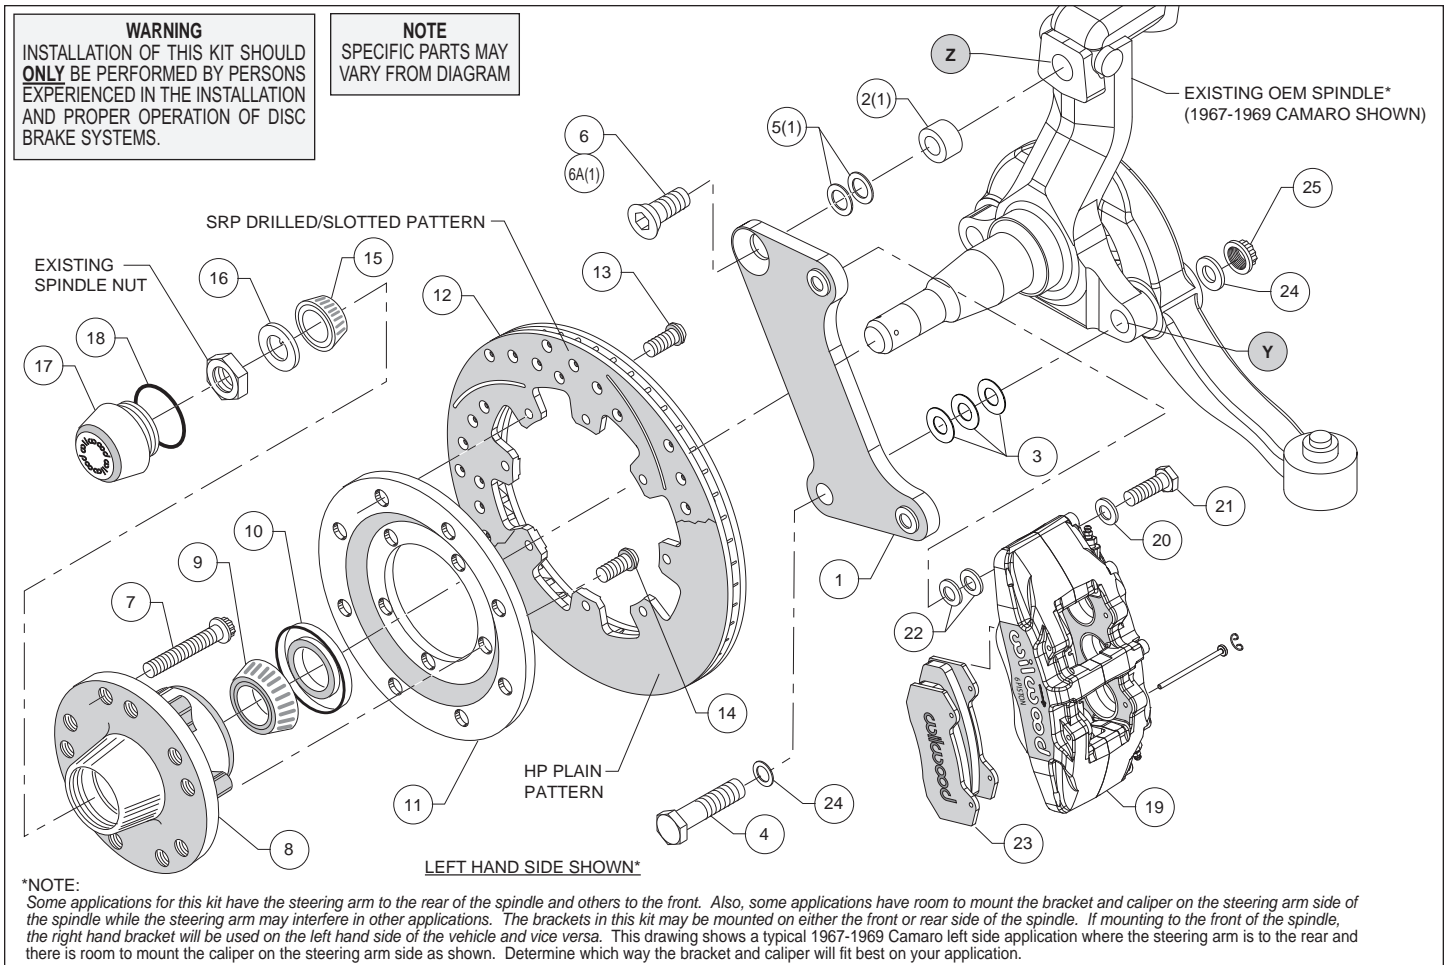
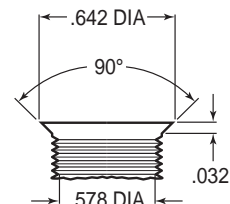
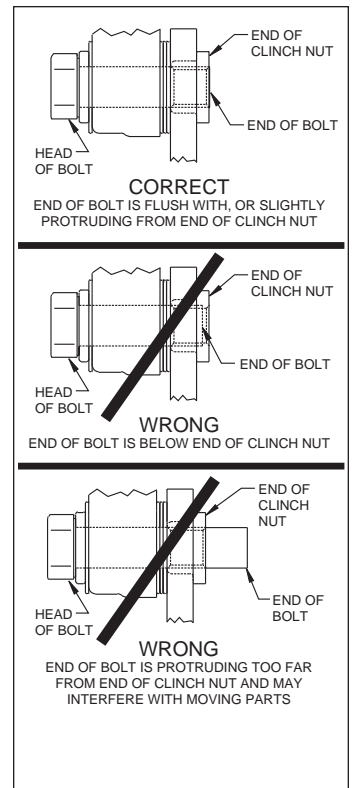

Figure 1. Typical Installation Configuration
Figure 3. Drill and Tap Detail
Figure 4. Clinch Nut Engagement Diagram
Assembly Instructions (numbers in parenthesis refer to the parts list and Figure 1 on the preceding page): **CAUTION:** All mounting bolts must fully engage clinch nuts. Be sure to check that all bolts are either flush or protruding through flanged side of clinch nut after shimming, Figure 4.
•**NOTE:** Some applications for this kit have the steering arm to the rear of the spindle and others to the front. Also, some applications have room to mount the bracket and caliper on the steering arm side of the spindle while the steering arm may interfere in other applications. The brackets in this kit may be mounted on either the front or rear side of the spindle. If mounting to the front of the spindle, the right hand bracket will be used on the left hand side of the vehicle and vice versa. Figure 1 shows a typical 1967-1969 Camaro left side application where the steering arm is to the rear and there is room to mount the caliper on the steering arm side as shown. Determine which way the bracket and caliper will fit best on your application.
•**NOTE:** Some spindles in this year range may require the following modifications (reference Figure 1 and Figure 3): Top anchor pin hole (Z) must be drilled and tapped to the dimensions as outlined in Figure 3. The lower bolt hole (Y) in the spindle used to mount the new caliper bracket, and the mating steering arm hole, must be enlarged to .50" by drilling. It is recommended these modifications be performed by a qualified machinist.
•Install wheel studs (7) into the hub (8), Photo 1. Torque to 77 ft-lb. **NOTE:** There are two five lug patterns in the hub (5 x 4.50 and 5 x 4.75). Ensure the correct hub stud pattern is being used to fit the wheel application.
- Pack the large inner bearing cone (9) with high temperature disc brake bearing grease (available from your local auto parts store) and install into the backside of the hub (8), Photo 2.
- Install the grease seal (10) by pressing into the backside of the hub (8), flush with the end of the hub, Photo 2.
- Orient the rotor (12) and the rotor adapter (11) as shown in Figure 1 and Photo 3. Attach the rotor to the adapter using bolts (13). Using an alternating sequence, apply red *Loctite*® 271 to the threads, and torque to 25 ft-lb.
- Mount the adapter/rotor assembly (11 and 12) to the hub (8) using bolts (14), as shown in Figure 1 and Photo 4. Using an alternating sequence, apply red *Loctite*® 271 to the threads, and torque to 45 ft-lb.
- Disc Brake Spindle Application Only:** Follow the instructions below, but instead use bolt (6A), spacer (2), and two .050" thick washers (5) in the upper bolt hole location, Figure 1.
- Orient the flat bracket (1) as shown in Figure 1 and Photo 5, and install using bottom bolt (4), washers (24), and nut (25), Figure 1. Initially place three .032" thick shims (3) between the bracket and spindle. Install the upper bolt (6 or 6A), Photo 6. Ensure that the flanged heads of the clinch nuts in the bracket are facing outboard. Temporarily tighten bolts. **NOTE:** *The bracket must fit squarely against the mounting surfaces on the spindle.* Inspect for interference from casting irregularities, machining ridges, burrs, etc. Temporarily install the hub/rotor assembly. Check that the bracket is aligned parallel to the rotor, Photo 7. If not, adjust by adding or subtracting shims (3) on the lower bolt between the bracket and spindle, Figure 1. Once the bracket alignment is correct, remove the upper bolt (6 or 6A), apply red *Loctite*® 271 to the bolt threads, and torque to 120 ft-lb. Torque the lower lock nut to 65 ft-lb.
- Pack the small outer bearing cone (15) with high temperature disc brake bearing grease and install into hub (8). Slide the hub/rotor assembly onto the spindle. Secure using spindle washer (16) and OEM spindle nut, Photo 8. Adjust bearings per OEM specifications. Install saved OEM nut lock (if any) and a new cotter pin (not included).
- Screw dust cap (17) into hub (8). Friction created by the o-ring (18) on the dust cap keeps it from unscrewing. **NOTE:** *The O.D. of the existing OEM spindle washer may be larger than the I.D. of the dust cap not allowing it to seat against the hub face. Therefore, use the spindle washer (16) supplied with the kit instead of the OEM washer.*
- NOTE:** *Please reference the caution statement at the beginning of the assembly instructions. This kit contains distinct right and left hand calipers that must be mounted in a specific direction, as described below.* Mount the caliper (19) onto the caliper bracket (1) using bolts (21) and washers (20), as shown in Figure 1. Initially place two .035" thick shims (22) on each bolt between the caliper and the bracket, Photo 9. Ensure that the caliper is mounted so the largest pistons are at the rotor exit end of the caliper, in relation to the direction of rotor rotation. Temporarily tighten the mounting bolts and view the rotor (12) through the top opening of the caliper. The rotor should be centered in
the caliper, Photo 10. If not, adjust by adding or subtracting shims (22) between the bracket and the caliper. Always use the same amount of shims on each of the two mounting bolts. **NOTE:** The end of the bolt must be flush with or slightly protruding from the head of the clinch nut in the bracket. If necessary, place spare shims between the washer and the caliper mounting ear to achieve the proper clinch nut engagement, as shown in Figure 4. Once the caliper alignment and clinch nut engagement are correct, remove the mounting bolts and caliper.
- Remove the two pad retaining pins from the caliper (19) by carefully popping out the pin retaining clips and sliding out the pins. Insert the brake pads (23) into the caliper from the bottom, Figure 1 and Photo 11, with the friction material facing the rotor. Secure the brake pads in place with the pad retaining pins and clips, Photo 12. Reinstall the caliper onto the caliper mounting bracket. Apply red *Loctite*® 271 to bolt threads (21), and torque to 40 ft-lb.